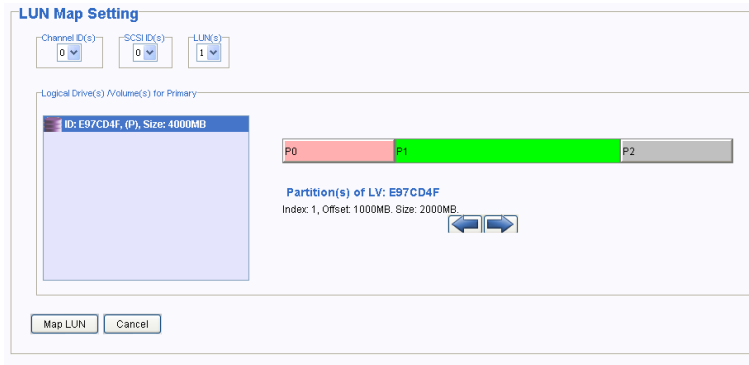

Fig. 10.3 LUN Map Setting Window
- After selecting the ID, the LUN Map Setting window appears as shown in *Figure 10.3*.
- Follow the steps listed in *Section 10.1 Accessing the LUN Map Table* above to access the Host LUN Mapping window shown in *Figure 10.3*.
2. Follow the steps listed in *Section 10.1 Accessing the LUN Map Table* above to access the LUN Map Setting window shown in *Figure 10.3*.